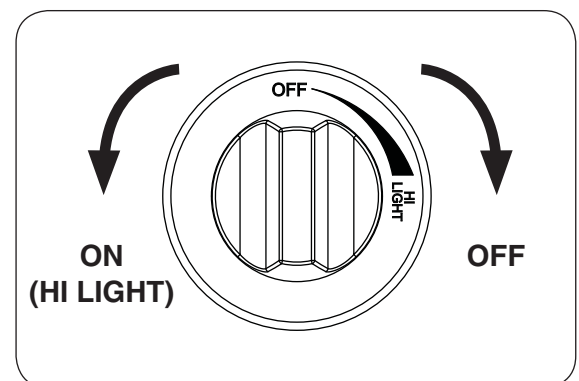

Fig. 35-2
4. **Once the match is burning and in position**, depress the gas control knob and turn it counter-clockwise to the **HI LIGHT** position (see Fig. 35-2). Your burner should light.
**WARNING:** If the burner does not light within five (5) seconds of turning the control knob, immediately depress the control knob and turn clockwise to the **OFF** position.
**To extinguish your gas burner**, depress the gas control knob and turn it clockwise to the **OFF** position (see Fig. 35-2). Be sure the control knob is turned fully off to avoid any gas leakage.